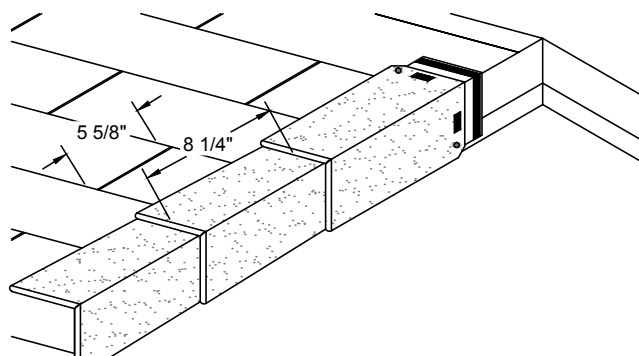

Figure 37 - Installation of EZ-Ridge™ Shingles on Rake Edges of the Roof
3. Note: Installation with exposed nails may affect the aesthetic appeal of EZ-Ridge™ shingles. (See Figure 37)